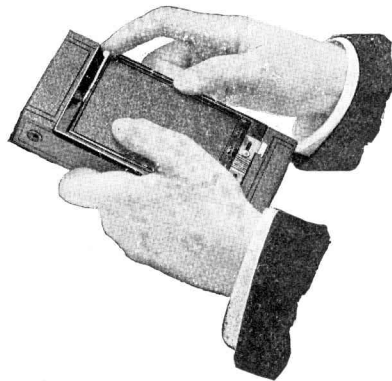

FIG. 1. Opening the front.
1. Pull up the lever on front of camera, located at the winding end. Fig. 1. This unlocks the bed of camera. Then pull lever forward and push down the bed of camera to the limit of motion.